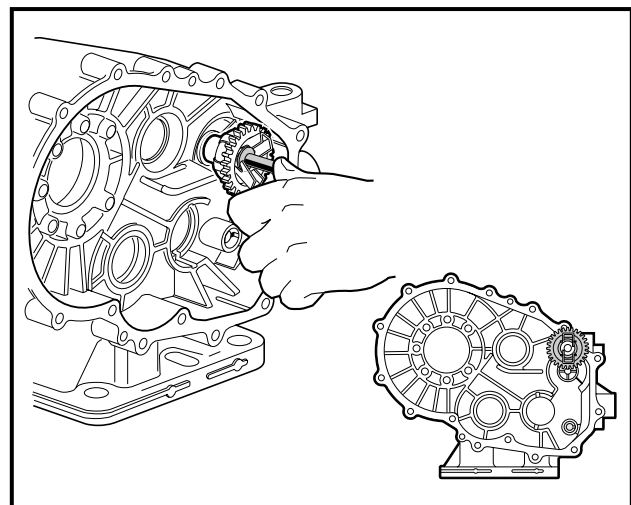

Figure 16a-78 Install Governor Gear
6. Install the shifter shaft into the left (driver side) case as shown (**Figure 16a-80, Page 16a-36**). Then install the washer and using external snap ring pliers (0.070 tip), install retaining ring on the shifter shaft outside of the case. Make sure the retaining ring is in the groove of the shaft.